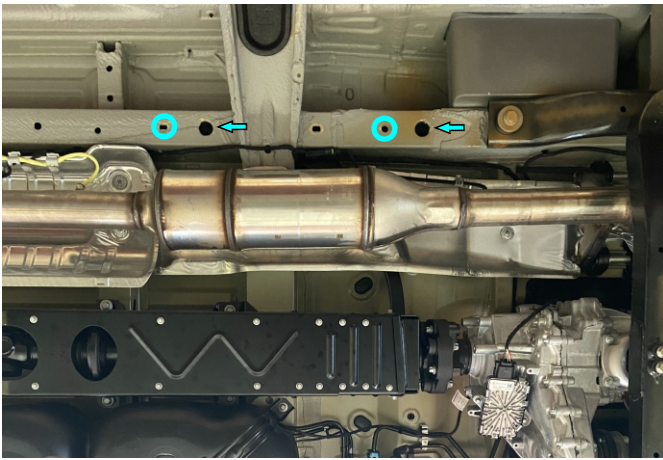

Fig. 1
1. Install insert nuts M8 (item E) as shown in fig.1